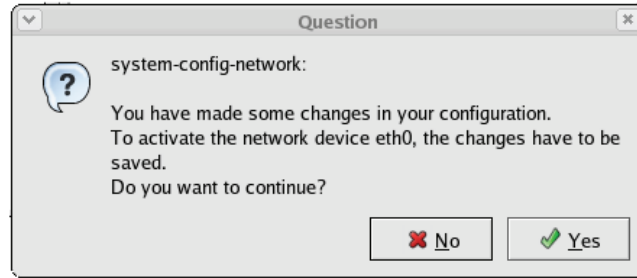

Figure 13. Confirm Settings Window
9. If changes were made, a dialog box appears asking to confirm the changes. Click **Yes** to confirm and save the changes (see figure 13).